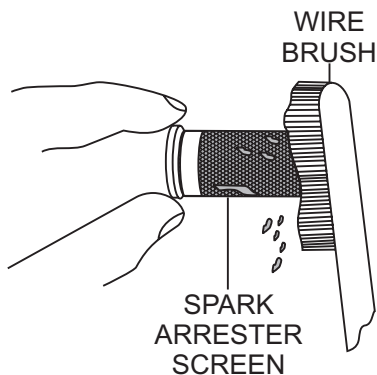

Figure 33. Cleaning The Spark Arrester
4. Carefully remove carbon deposits from the spark arrester screen (Figure 33) with a wire brush.